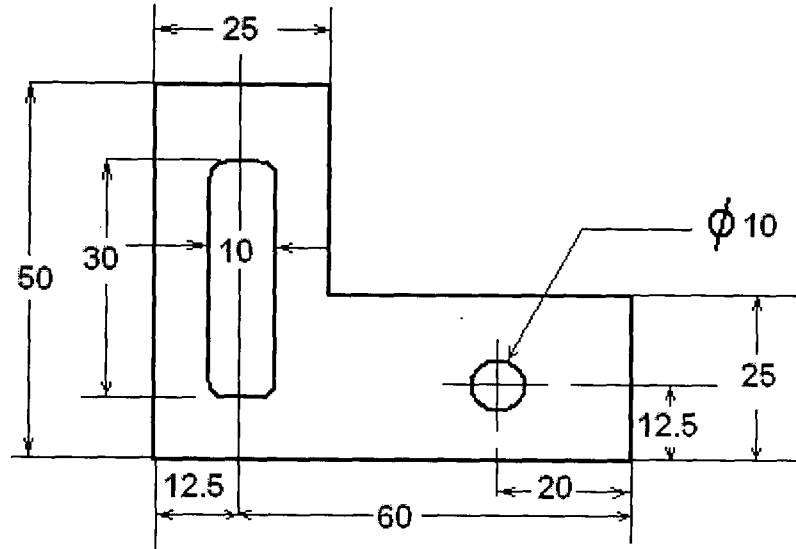

Figure 11
11. Design and draw two views of a progressive die for producing the component shown in figure 11. The sheet metal is of 18 gauge and made of cold rolled steel of ultimate strength  $580 \text{ N/mm}^2$